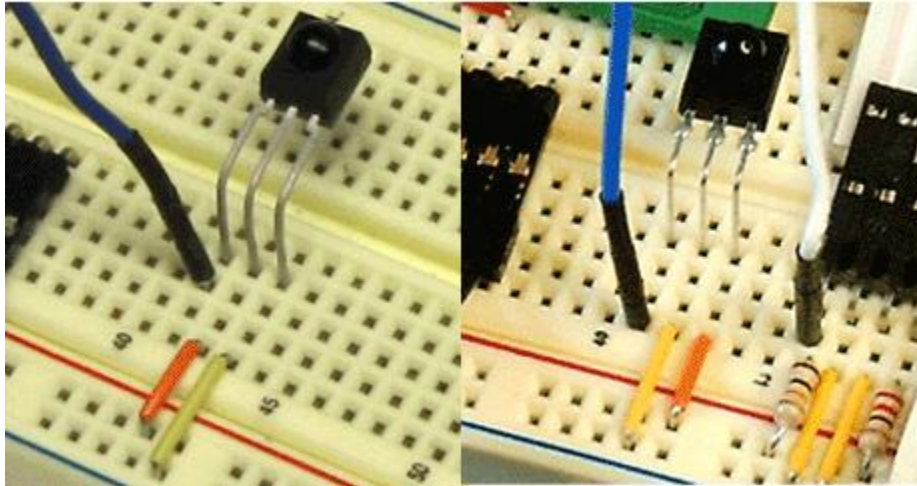

Figure 5. Installing the Toshiba (left) and Panasonic (right).
2. Insert the infrared receiver, a short yellow jump wire, a short orange jump wire, and a long flexible blue jump wire into the XBoard, as shown in Figure 5. Note that *the polarity of the two types of receivers is reversed*.
1. Insert two AAA batteries in the remote control, as shown above in Figure 5. *Batteries are not included with Remote Expansion Pack.*